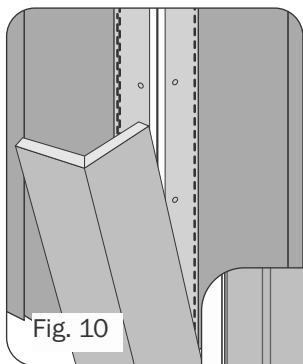

Fig. 10
- In situations where it is not possible to place the nail in the center of the nailing slot (foam sheathing, etc.) it is permissible to remove the material in between two slots to allow for more room for expansion and contraction (Fig.10).
- Select fixture mounts are available for obstructions such as lighting, dryer vents, water faucets, etc. Begin by installing the base “ring.” Install the siding panels allowing for the appropriate expansion gap depending upon the length of the siding course. Center and secure the face plate with two Select Cortex trim screws and plugs (Fig. 10).